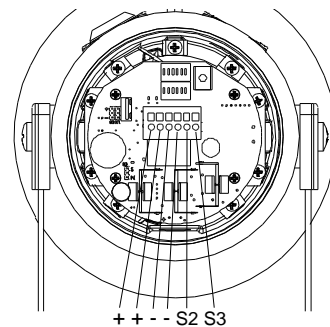

Fig. 8 DC Terminals
- Fit an M20/NPT suitably rated cable gland or conduit entry into the hole in the enclosure and connect the field wiring to the appropriate alarm horn terminals as shown in fig. 6 (AC) or fig 8. (DC). The power supply terminals are duplicated so that units may be connected in parallel. An end of line monitoring resistor may be fitted to DC units only (see section 12). If the second and third M20/NPT entries are not used, suitably rated stopping plugs must always be fitted.
Stage one (S1) operation: Simply connect the supply voltage to the + and - supply terminals, (see fig. 8).